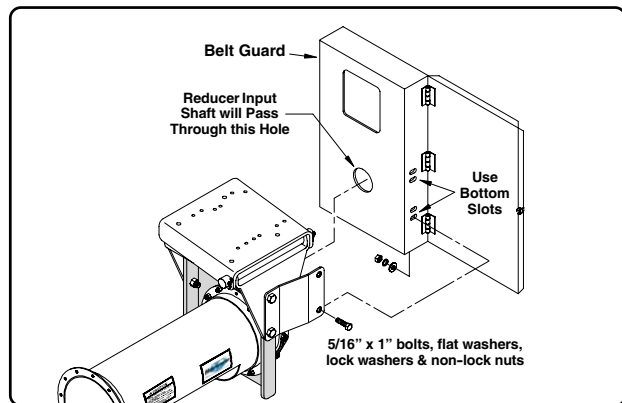

FIG. 7
5. Install the belt guard (See Fig. 7). Secure the guard to the belt guard brackets using four (4) 5/16" x 1" bolts, flat washers, lock washers and non-lock nuts (the belt guard has four slotted holes on each side, use the bottom set of holes to mount the guard).